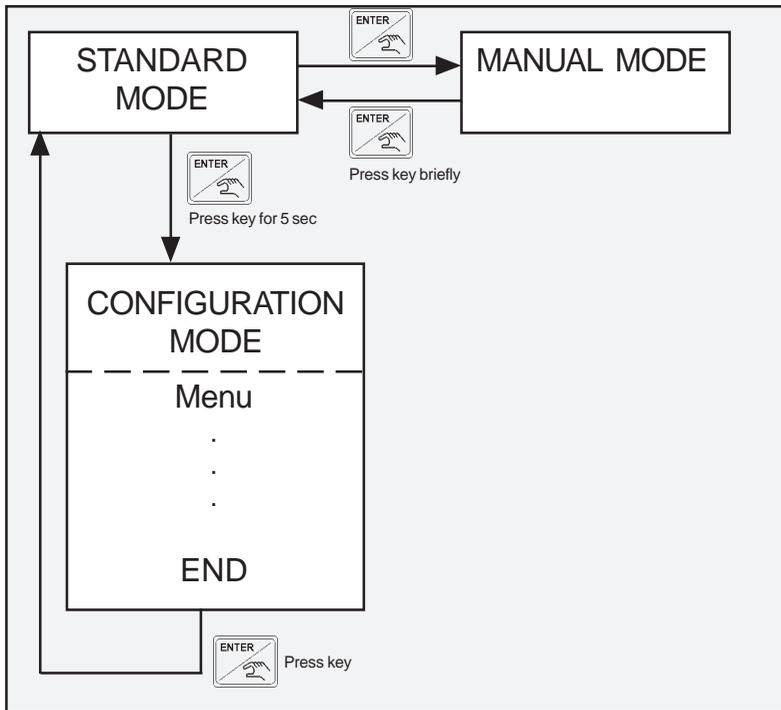

Fig. 8: Switching between the operational modes
- Changing to the other operational modes is possible as shown in Fig. 8.